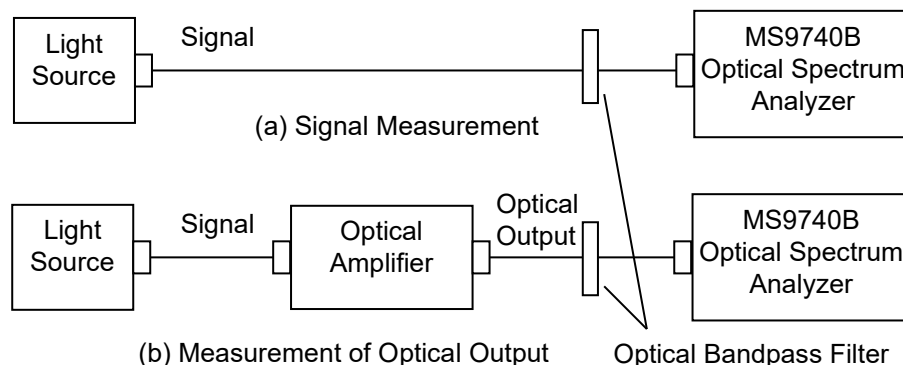

Figure 5.7.3-1 Optical Amplifier Measurement System
7. Input the output light of the optical amplifier to MS9740B as shown by the connection in Figure 5.7.3-1 (a).
16. Input the output light of the optical amplifier to MS9740B as shown by the connection in Figure 5.7.3-1 (b).